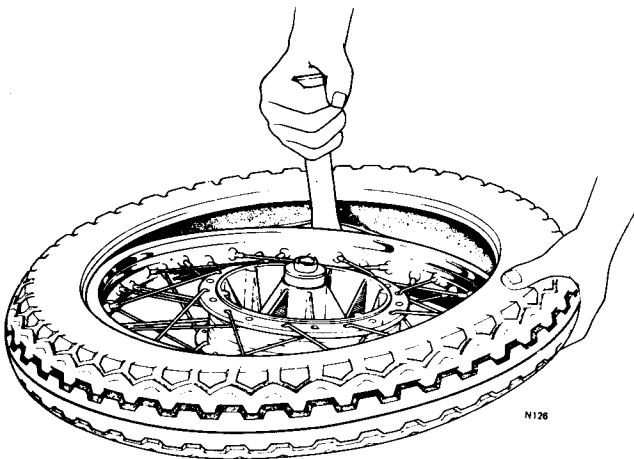

Fig. H22 First bead being levered into the rim
- 6 Pressing this side of the tire into the rim well, and working from the valve, press the first beading over the rim by hand pressure and lever the last few inches into position as in *Fig. H22*. Take special care that the inner tube is not nipped during this operation.
- 6 Pressing this side of the tire into the rim well, and working from the valve, press the first bead over the rim by hand pressure and lever the last few inches into position as in *Fig. H22*. Take special care that the inner tube is not nipped during this operation.